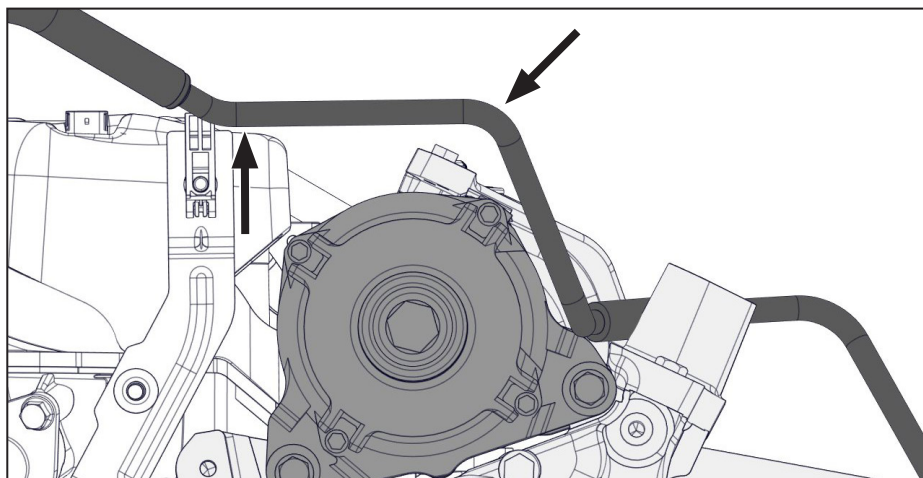

Figure 22 — Adjust AC line
- ☐ Gently increase the radius of the bend in the AC line to allow it to clear the alternator (Figure 22).